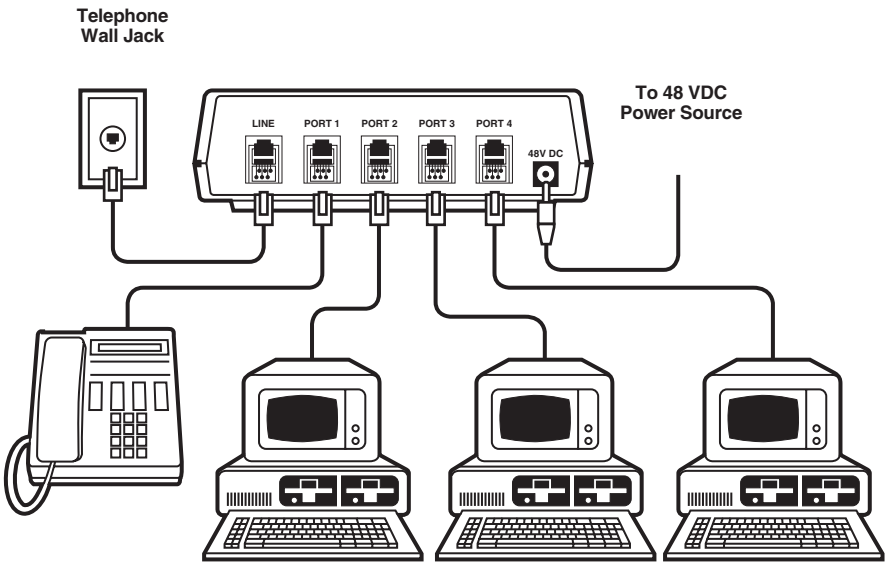
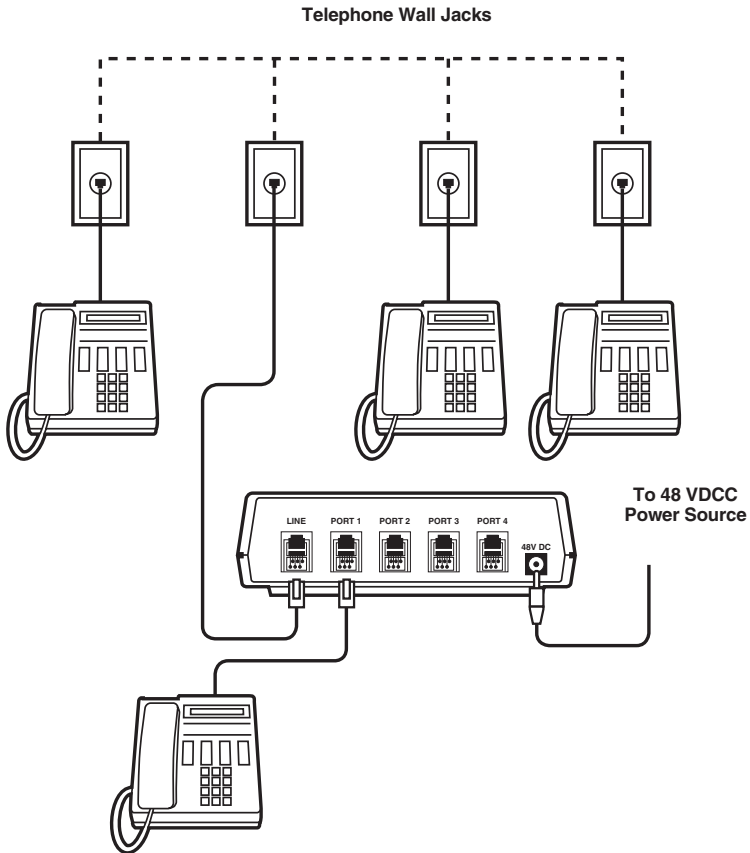

Figure 3-4. Telephone Equipment Connected to the Lineshare Pro in a Single-Phone-Line/Single-Phone Arrangement.
Figure 3-5. Lineshare Pro Installed on an Extension.
Figure 3-4 shows a complete installation for a single phone line/single phone arrangement. While the connections to the wall jack may be different for other types of phone systems, the connections to the Lineshare Pro remain the same for all phone configurations.
Figure 3-4 illustrates only one of many possible configurations. As shown, the Lineshare Pro is configured with a voice priority phone port with three auxiliary ports. You can also configure the Lineshare Pro as a four-port secured switching system (see “Lineshare Pro Configuration” in Custom Features for more information).
To connect telephone equipment as shown in **Figure 3-4** to the Lineshare Pro, follow these steps:
where it will be located and follow the procedure provided in **Section 3.2**. Refer to **Figure 3-5** to see how to install the Lineshare Pro as an extension. Refer to **Figure 3-4** to see how to connect telephone equipment to the Lineshare Pro.
To maintain exclusion, the phone line must terminate at the Lineshare Pro, and all telephone equipment must connect through the back of the Lineshare Pro as shown in **Figure 3-4**.
11. Connect the other telephone equipment as shown in **Figure 3-4**.
All equipment on the last line in rollover (KSU or PBX, fax, computer modem, and so on) must connect directly to the Lineshare Pro as shown in **Figure 3-4**.